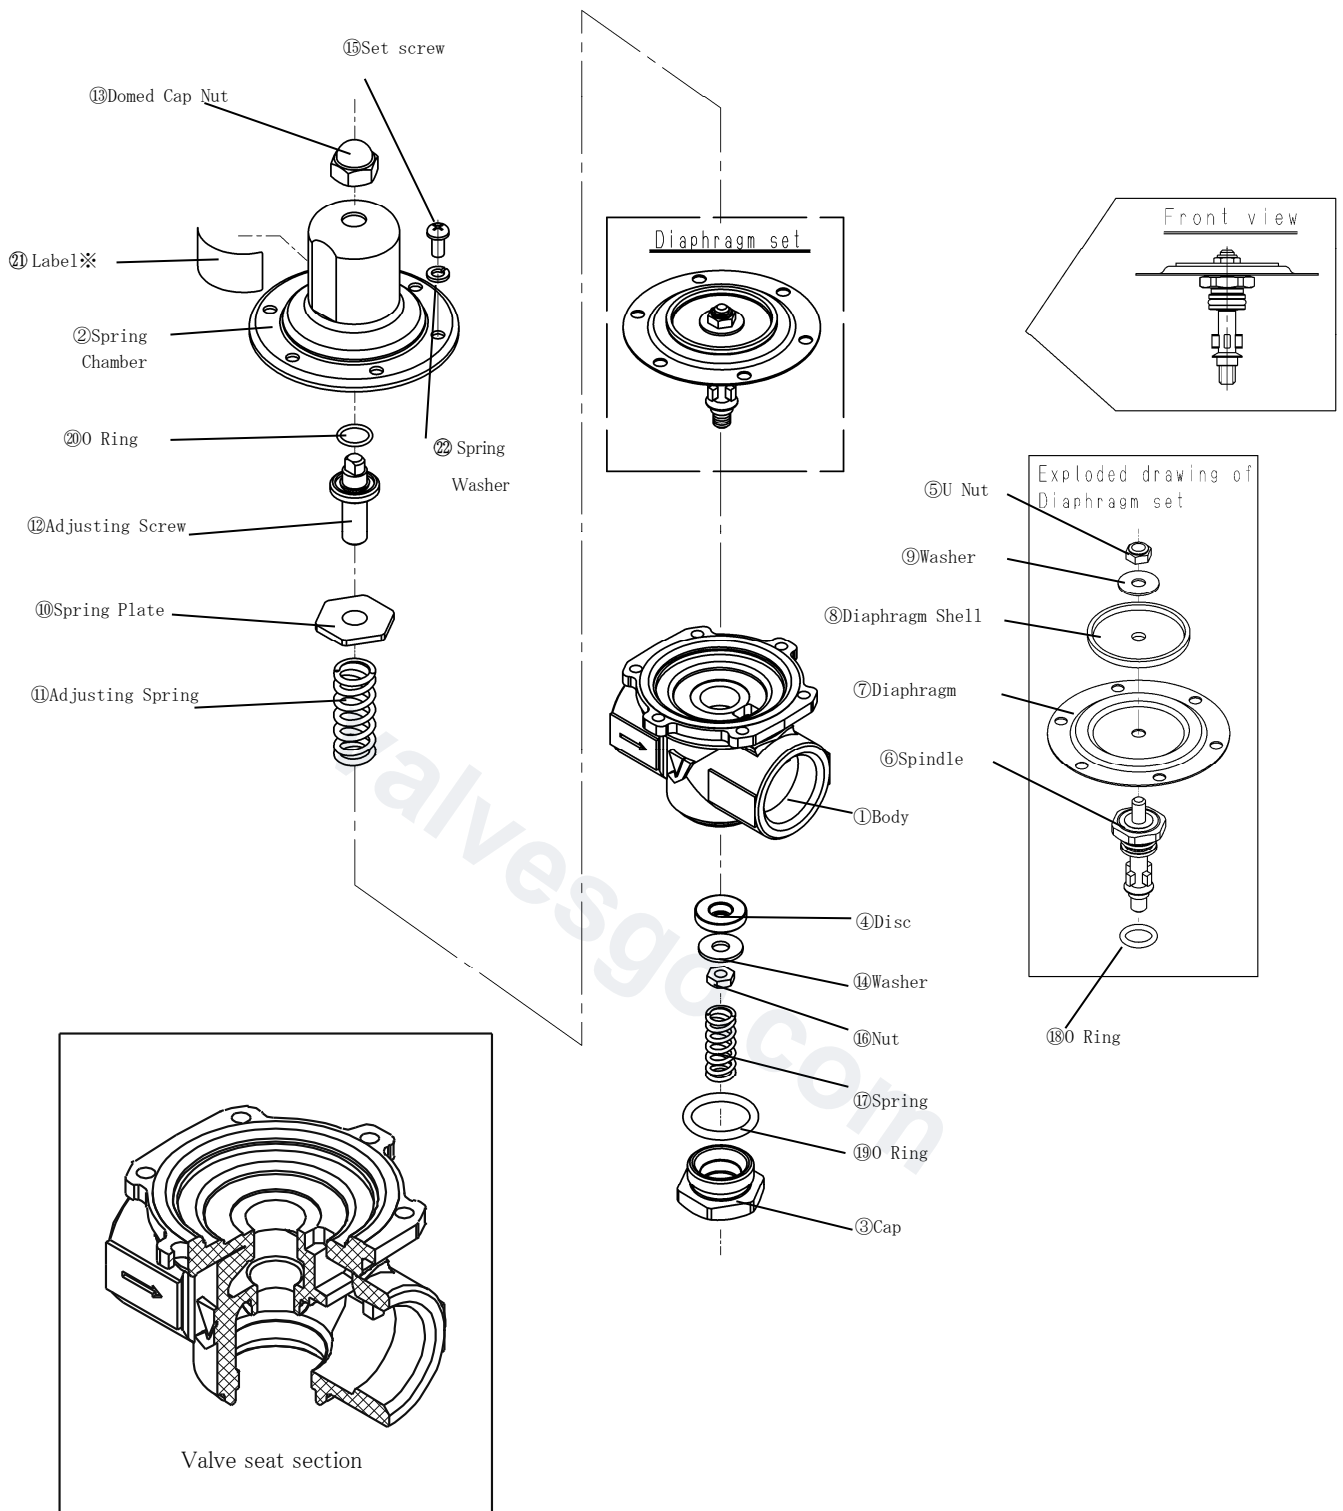

Fig. 3 Exploded drawing of GD-41Type
Longevity of expendable parts depends on frequency and condition of use. Rough standard of life estimation is given below. (Part number shown in the table below refers to the number in Fig. 3, Exploded drawing of GD-41Type.)
## 6.2 Troubleshooting (Refer to Fig. 3) Same GD-43 Type
- I . ii Pinched foreign material or flaw found on valving element P or valve seat (For valve seat, see Fig. 3 Exploded drawing of GD-41Type.)